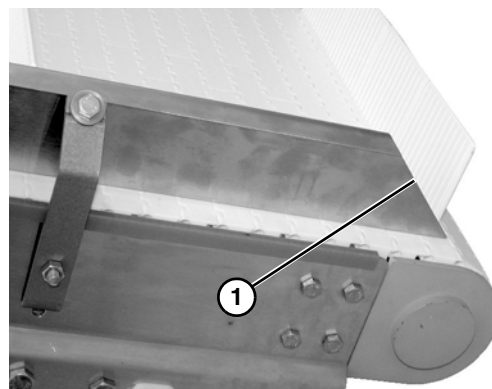

Figure 40
*When installing guides, be sure that the angled end of guide is installed on the idler end of conveyor (**Figure 40, item 1**).*